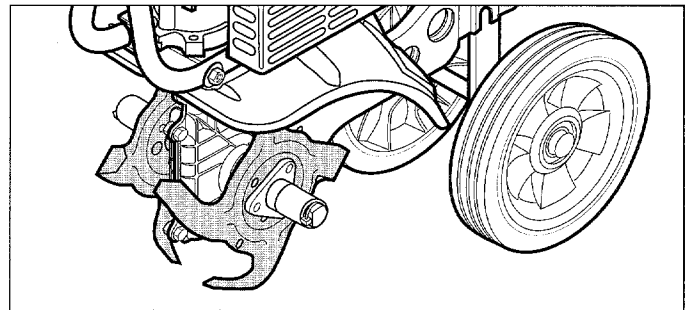

Figure 20: Narrow tilling configuration.
- Keep the inner tine section on for a 6" wide tilling swath and then add one of the long bushings provided with the unit. See Figure 20. Insert the ring lock pin through the rounded side of the tine shaft and snap the ring down over the shaft (see DETAIL, Figure 6, page 10).